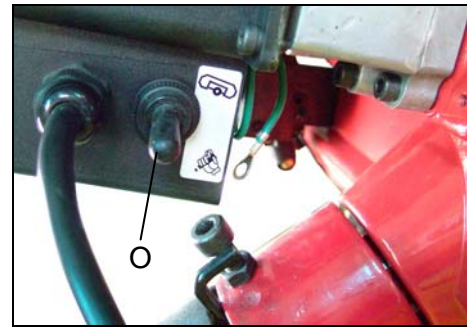

Fig. 13
2. Push down the toggle switch in (O) Fig.13 for cutting material by handle.